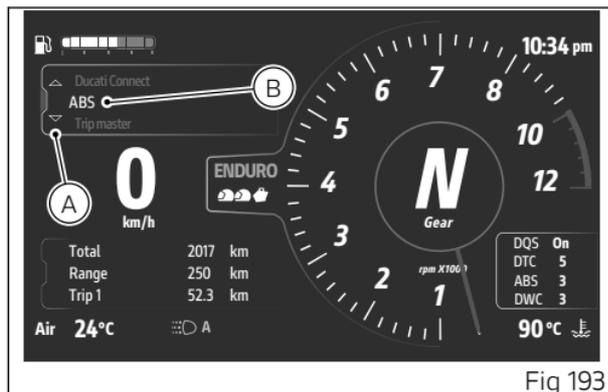

Fig 193
- Select the Interactive Menu (A, Fig 193) by pressing and holding the joystick in position ▲ for a long time.
- Use the joystick ▲ ▼ to select "ABS" (B, Fig 193) and press ENTER.